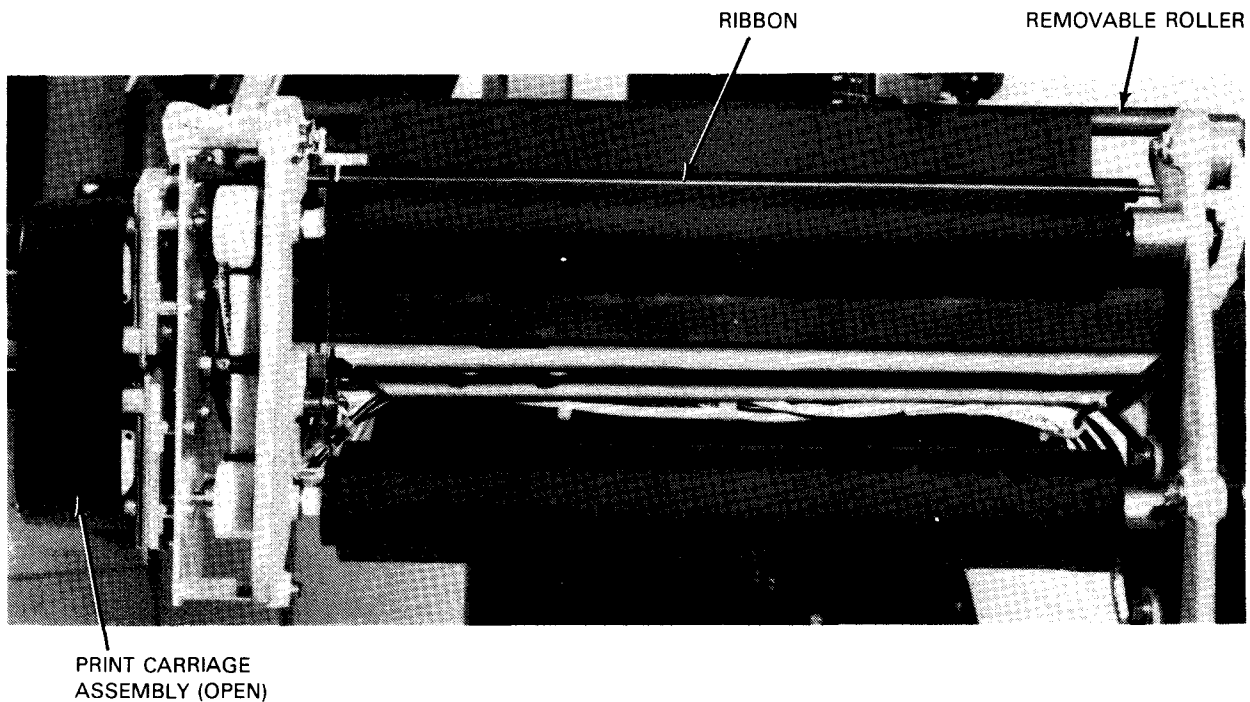

Figure 4-8. Print Carriage Assembly Open and Removable Roller in Place
1. Push downward on latch lever, locking print carriage assembly. Swing print carriage assembly to fully open position (Figure 4-8).
2. Remove bottom ribbon roll and cradle between upper ribbon roll and spring-loaded roller (see Figure 4-8).